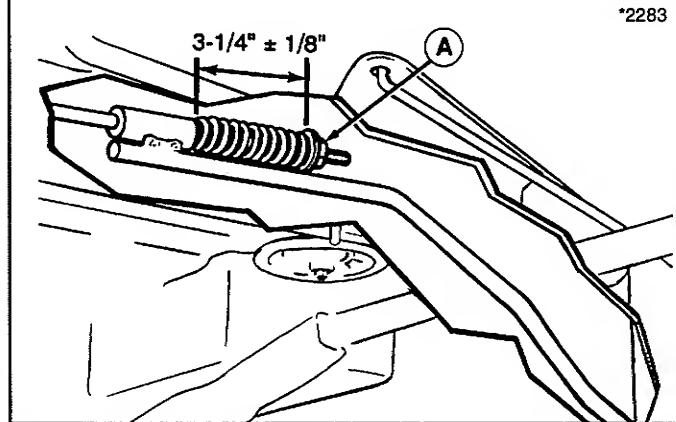

Figure 28. Brake Adjustment - Gear Models
2. See figure 28. The spring should be compressed to $3\frac{1}{4}'' \pm 1\frac{1}{8}''$. Turn the adjustment nut (A) as necessary to achieve correct spring length.